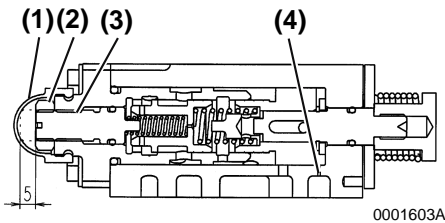
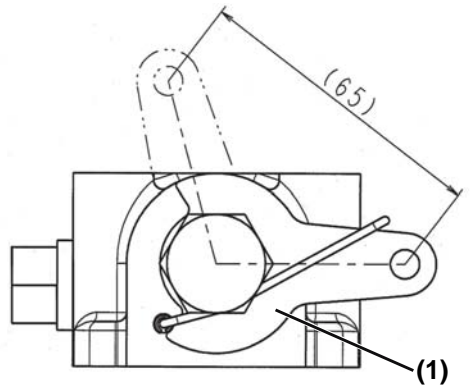

Figure 6
Figure 7
When the rubber cap (Figure 6, (1)) is removed, the lock nut (Figure 6, (2)) is loosened, and the adjustment screw (Figure 6, (3)) is rotated clockwise (tightened), the angle of a lever (Figure 7, (1)) lowers the shifting pressure and reduces the speed of the boat. **NOTICE: Use the trolling valve once daily. The orifice (Figure 6, (4)) can clog when the trolling valve is not used for extended periods of time, resulting in unexpected engagement of the valve.**